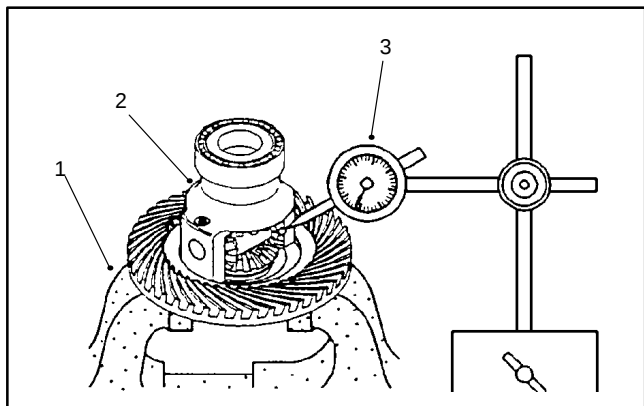

Figure 87
5. Secure the differential case in a soft jawed vise. Position a dial indicator on a tooth of the differential pinion gear. Press the pinion and side gear against the differential case and measure the pinion gear to side gear backlash (Fig. 87).